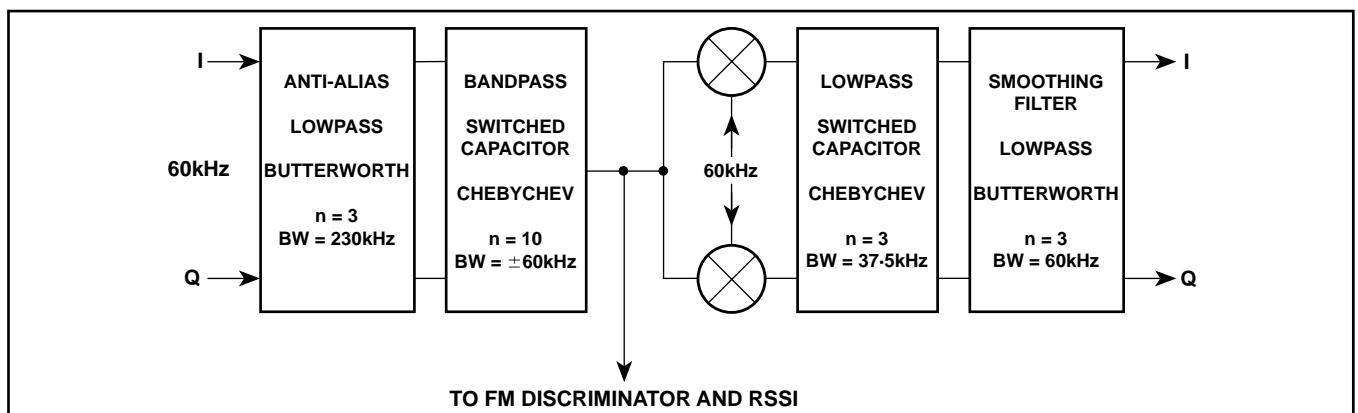

Figure 4 - Receive path filters
- These filter characteristics are for the 60kHz bandpass filter. This provides all the filtering in FM mode. There is additional filtering in I/Q mode provided by the baseband low pass filters. Details are shown in Figure 4.
The receive path filtering is shown in more detail in Figure 4. The inputs to the MGCM01 are I and Q signals at an IF of 60 kHz. These can be generated by a quadrature demodulator circuit such as the Zarlink Semiconductor MGCR01 (Saturn) AGC amplifier and demodulator. This device is normally used for mixing direct to baseband but can also mix down to low IF quadrature signals. The I and Q signals are passed through anti-alias filters to prevent spurious responses in the subsequent switched capacitor filter. The anti-alias filter is a third order Butterworth with a 230kHz cutoff. The I and Q signals are then combined and passed through a switched capacitor bandpass filter. This filter is a tenth order Chebychev. The advantage of using a switched capacitor filter is that it gives very stable performance and no calibration is required. The circuit also provides rejection of the image frequency following the down conversion to 60kHz.
Following the bandpass filter the signal is mixed down to baseband I and Q and is output from differential outputs. There is additional baseband filtering to remove spurious signals from the down converters and clock breakthrough from the switched capacitor filters. Further detail of the filtering in the the MGCM01 receive path is shown in Figure 4. The baseband outputs can be fed directly into A to D converters in a baseband circuit.